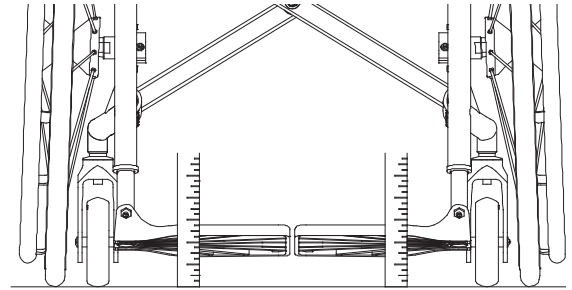

Figure 4
2. Place the end of a ruler on the floor and hold it vertically against the left corner of the footrest. See Figure 4. Adjust the footrest to the desired height (not less than 2" of ground clearance) and tighten the Allen Screws in the clamp so the footrest height cannot change.
4. Place the end of a ruler on the floor and hold it vertically against the left corner of the footrest. See Figure 4. Adjust the left side of the footrest to the desired height (not less than 2" of ground clearance) and tighten the Allen Screws in the clamp so the footrest height cannot change.